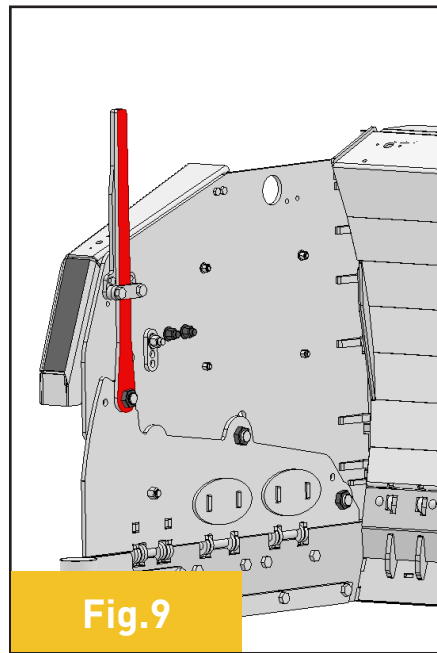

Fig.9
8.5 VISUAL MARKERS WITH LEVELING INDICATORS **(Fig.9)**